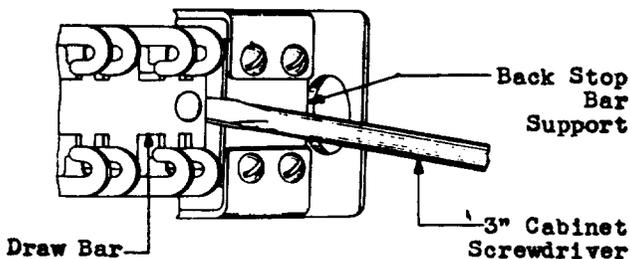
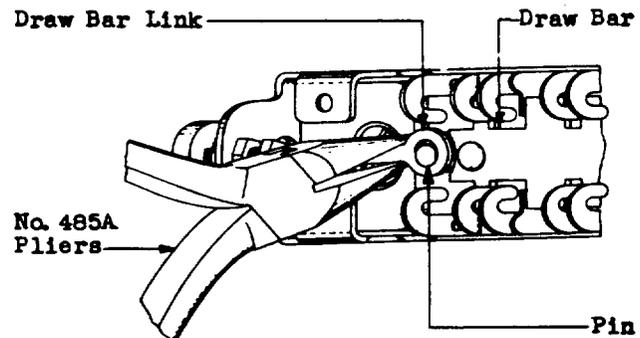

Fig. 4 - Method of Relieving Draw Bar Link of Spring Load
Fig. 5 - Method of Disconnecting Draw Bar Link from Spring Load
3.06 **Draw Bar Link** - To remove the draw bar link first remove the back stop bar as outlined in 3.04. Relieve the draw bar link of the spring load and disconnect it from the draw bar as follows: Insert the 3" regular screwdriver between the draw bar and the adjacent back stop bar support furthest from the magnet, as shown in Fig. 4 and move the draw bar toward the magnet by twisting the screwdriver. Grasp the draw bar link with the No. 485A pliers and disconnect it from the draw bar pin as shown in Fig. 5. Remove the nut from the draw bar link with the No. 310B wrench. Place the new draw bar link in the armature and screw the nut on the link to approximately the same position that it was on the old link.
3.07 Insert the 3" regular screwdriver behind the end of the draw bar furthest from the magnet and the adjacent back stop spring support, as shown in Fig. 4 and move the draw bar toward the magnet by twisting the screwdriver. Replace the draw bar link over the draw bar pin. Replace the back stop bar as outlined in 3.05.